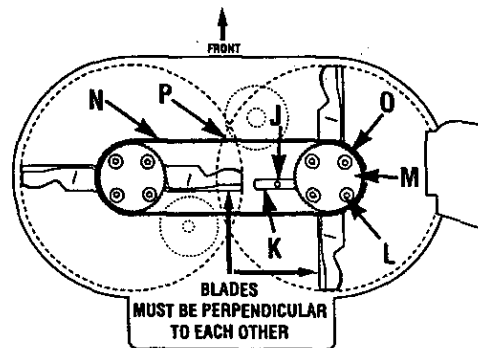

Figure 5-6: Blade Spindle Belt.
3. Align sight holes (O, Figure 5-6) in pulley with spindle housing-to-mower deck mounting bolts (L).
4. Loosen screw (J) and rotate arm (K) to the rear.
5. Loosen four mounting bolts (L) securing spindle housing (beneath mower deck) to mower deck.
7. Replace belt (N) with new belt.
8. Rotate arm (K) to move spindle housing and apply tension to belt. Belt cogs and pulley grooves must mesh together. When applying moderate finger tension (8-12 lbs.), belt should deflect approximately 1/2" (12.7 mm) at (P), midpoint of deck.
9. Tighten bolts (L) to 15 ft.-lbs. (20.3 Nm). Tighten screw (J).